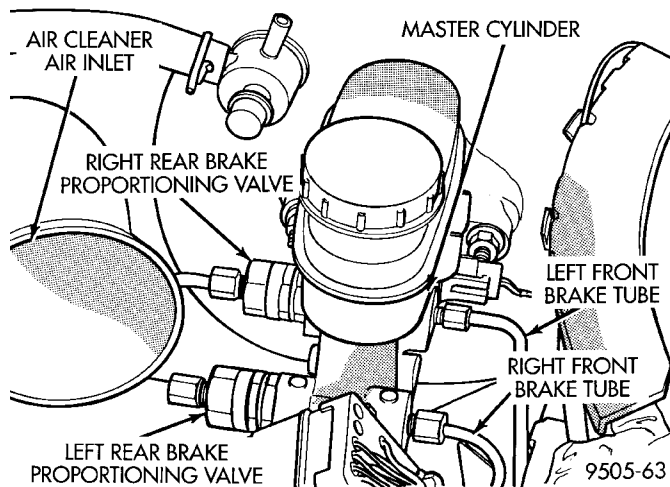

Fig. 26 Non-ABS Brakes Proportioning Valve Location On Master Cylinder
One proportioning valve controls the right rear brake, and the other proportioning valve controls the left rear brake (Fig. 26). Therefore, a road test to determine which rear brake slides first is essential. Once the wheel which slides first is determined, use the following procedure to diagnose the proportioning valve.
(1) After road testing vehicle to determine which rear wheel exhibits premature rear wheel skid, refer to (Fig. 26) to determine which proportioning valve needs to be tested.
(2) Remove hydraulic brake tube (Fig. 26) from proportioning valve controlling the rear wheel of the vehicle which has premature wheel skid.
(3) Remove proportioning valve from that outlet port of the master cylinder.